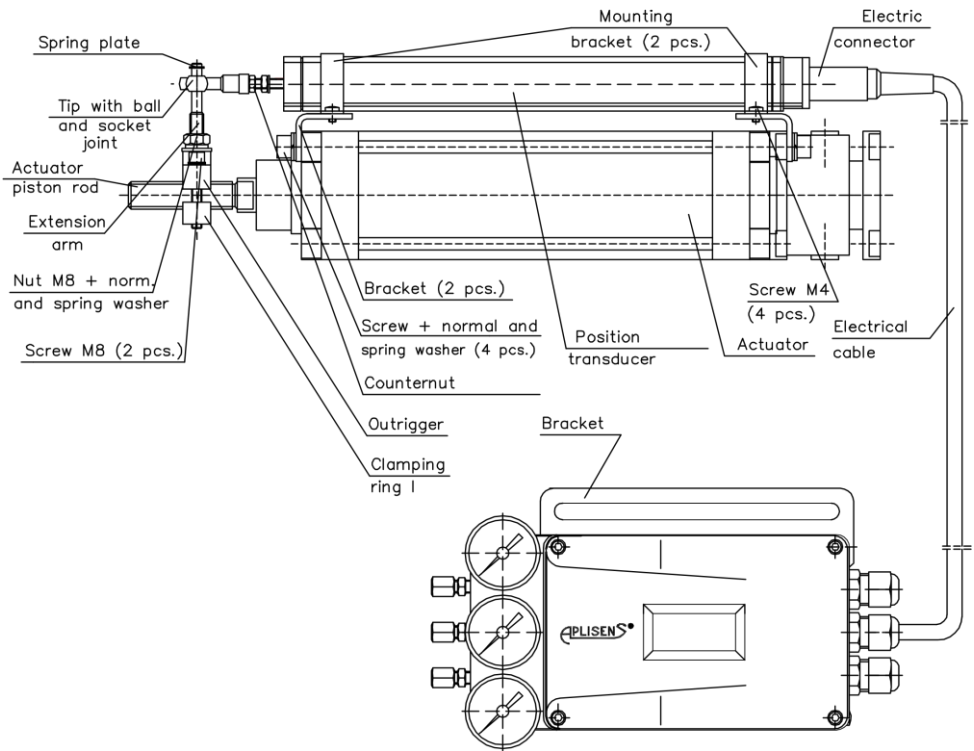

Fig. 12. Assembly of the APIS-2X1-..., APIS-2X2-... positioner with double action actuator with linear movement.
- Install the extension arm with a clamping ring I on piston rod by tightening firmly two M6 screws - Fig. 12.
Adjust the extension arm length to ensure that after the installation of the position transducer on actuator it will be possible to install a plate as shown in Fig. 12.